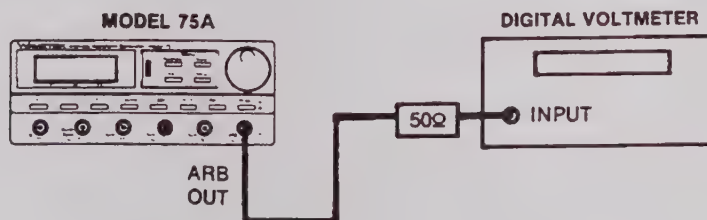

Figure 5-1. Calibration Equipment Connection
1. Interconnect the Model 75A and test equipment as shown in figure 5-1.